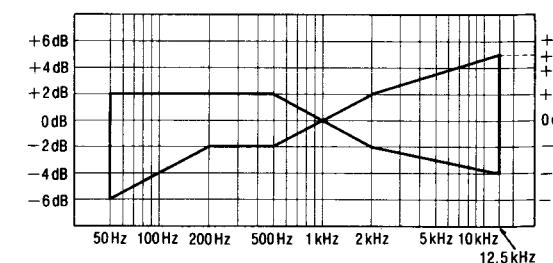

Fig. 9
6. After that increase the signal recorded on CrO_2 blank tape (QZZCRX) and metal blank tape (QZZCRZ) up to 12.5kHz and adjust in the same way as mentioned above and check that the frequency level is within the range shown in Fig. 9.